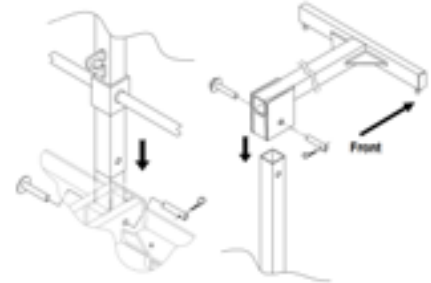

Figure 1
- a. Inspect to make sure the hitch pins are securely installed to the push pins (Fig. 1)